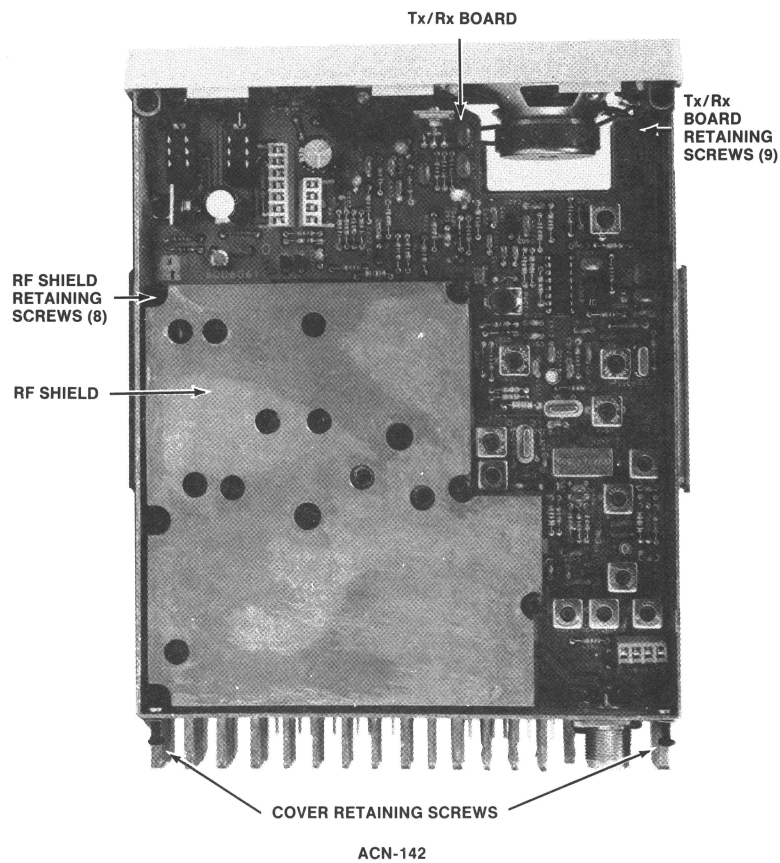

Figure 1 - Typical Transit/Receive Board Removal
2. Remove the four screws securing the front panel to the "H" frame and remove the front panel. See Figure 1. Also, remove screws securing display board (if present) to front panel.
3. Remove the eight screws securing the RF shield. See Figure 1.